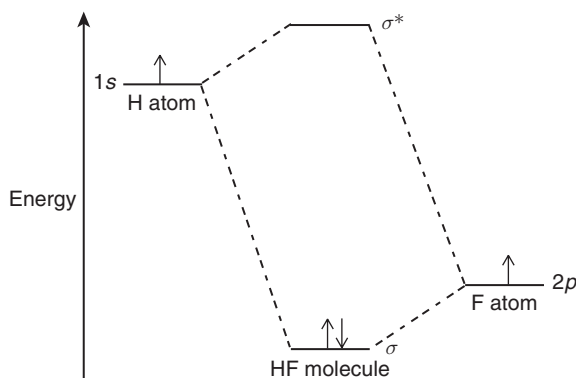

Figure 26 MO diagram of HF.
1. **HF molecule:** The atomic orbital energy levels are: hydrogen 1s (−13.61 eV), fluorine 2s (−40.17 eV) and 2p (−18.65 eV). In this case, there is no s-orbital interaction, because energy difference > 13 eV. The orbitals of 1s of hydrogen and 2p_x of fluorine can overlap to form a σ orbital due to compatible symmetry; while 1s, 2p_y and 2p_z of fluorine have no net overlap and are non-bonding. The MO diagram is as shown in Figure 26.